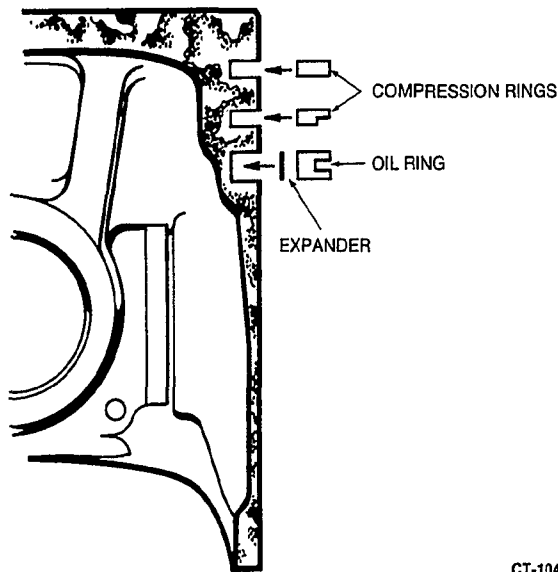

FIGURE 26. PISTON RINGS
3. Install the rings on the pistons starting with the oil control ring (Figure 26). Use a piston ring spreader to prevent twisting or excessive expansion of the ring. Compression rings have a dot or the word "top" on one side of the ring to indicate which side faces the top of the piston. Unmarked piston rings can be installed either way. The oil control ring has an expander; install the expander first and then close until the expander ends butt. The joint should be 180 degrees from the gap of that ring.